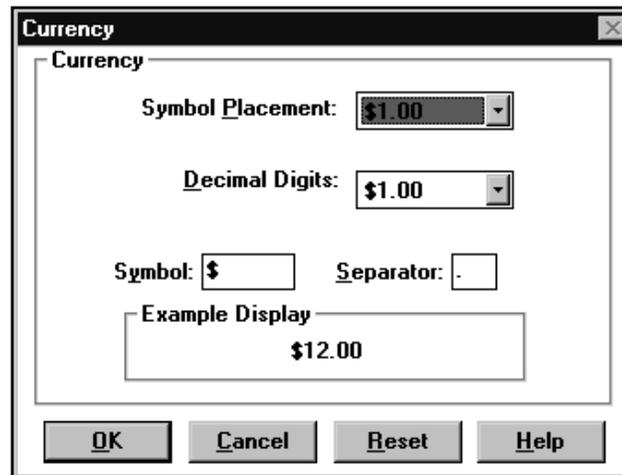

FIGURE 67. Example of Currency dialog box
1. In the configuration window, select Currency. (See Figure 67.)